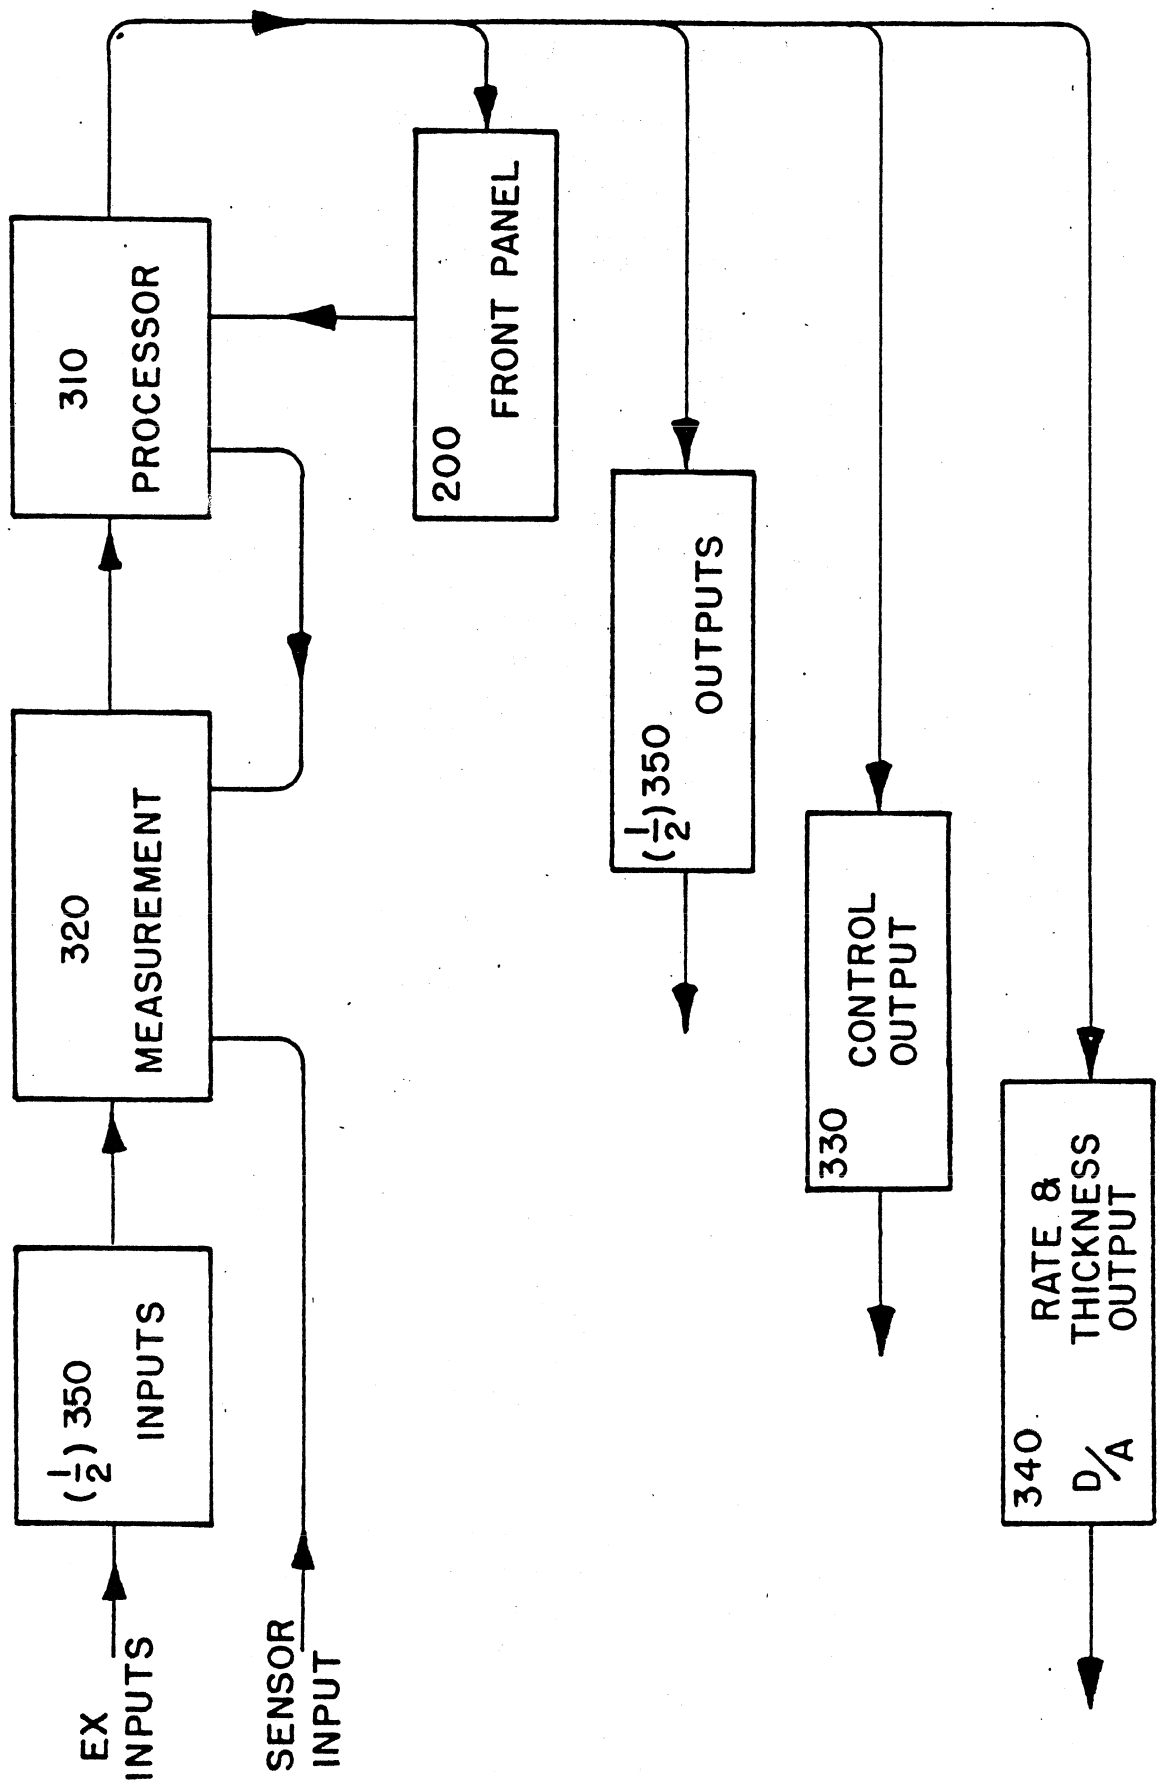
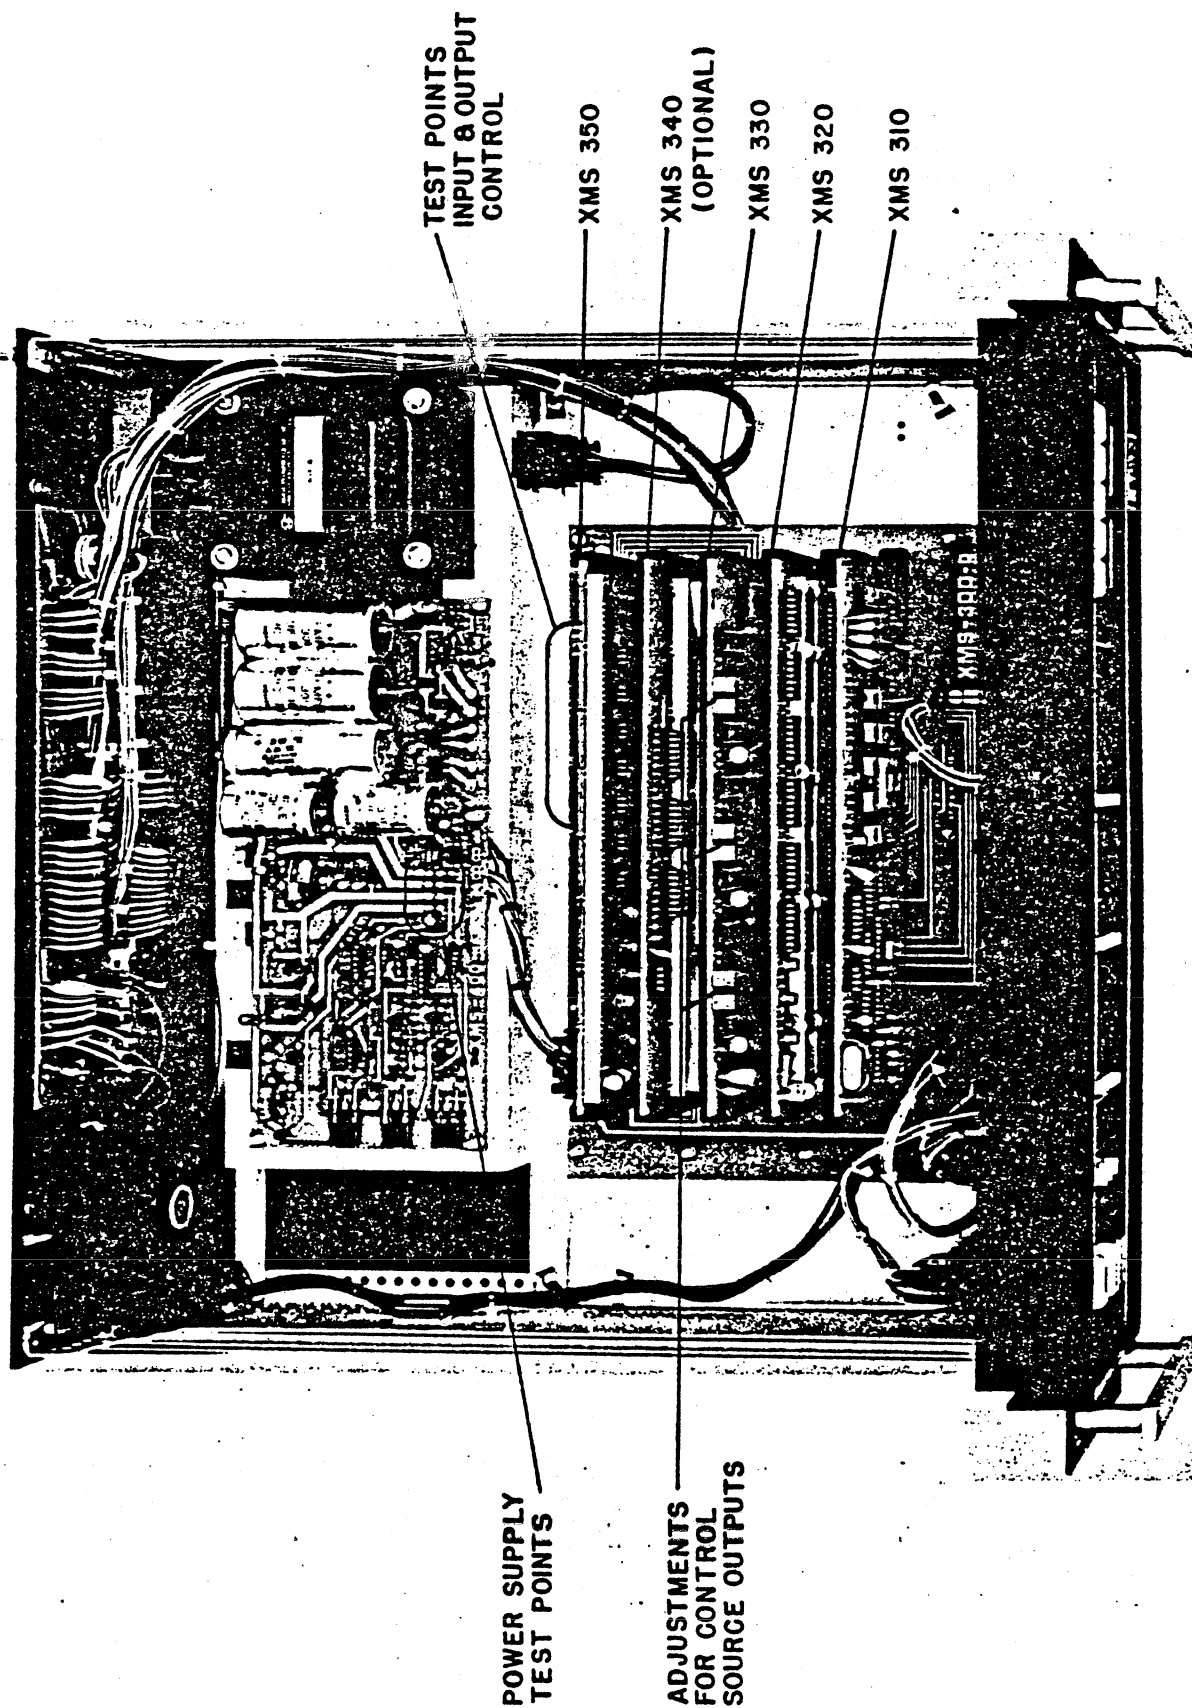
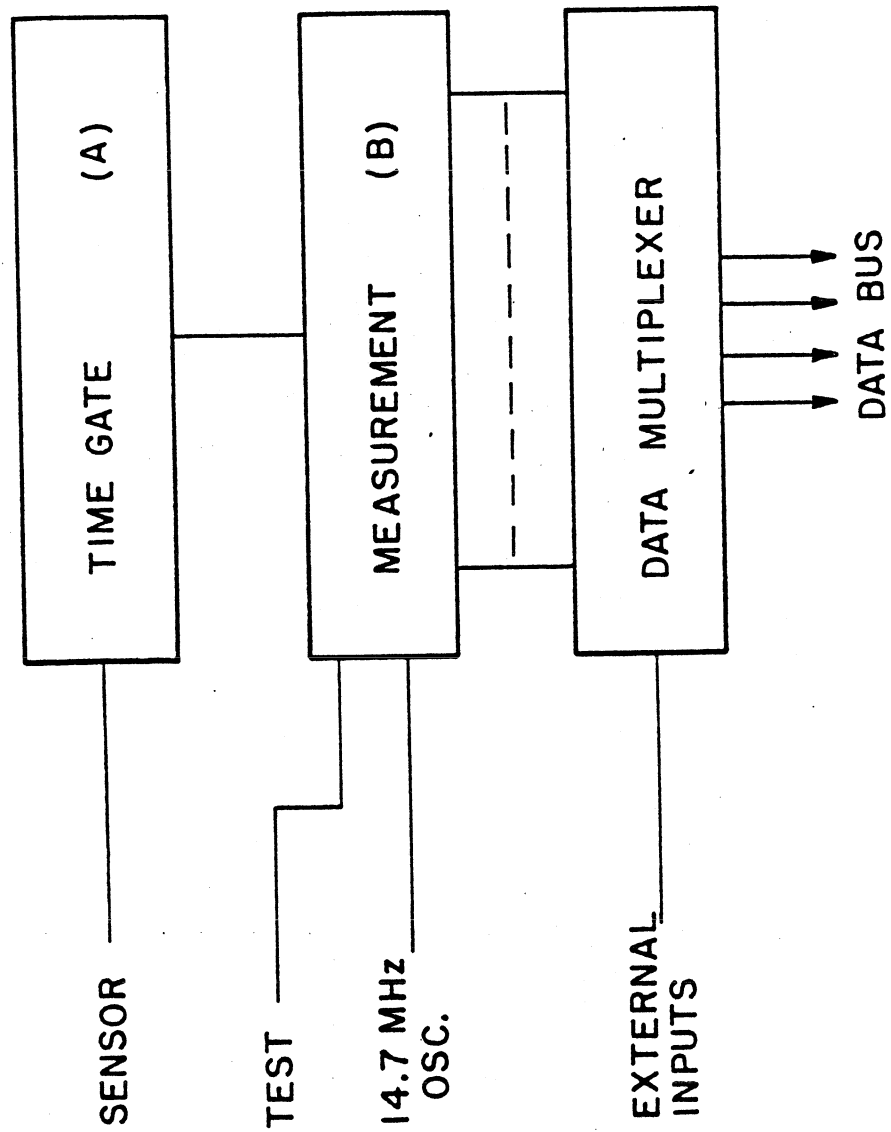

Figure 6-1 XMS-3 Block Diagram
Figure 6-3 Interior View of XMS-3
Figure 6-4 Measurement, XMS-320
The objective of this section is to familiarize service personnel with the various PC boards in the XMS and the role they play in the overall operation of the unit. Each board is broken down into functional blocks, and a brief description is provided. Figures 6-1 and 6-2 show system block diagram and schematic. An interior view of the XMS-3 is shown in Figure 6-3.
6.1.1 Measurement, XMS-320 (Figure 6-4)
The initial thickness measurement is accomplished by determining the variation in the period of the sensor crystal's oscillation. Figure 6-4 is a block diagram of this basic computation.
This subassembly contains all the regulated voltage supplies for the XMS. The following is a list of voltages and the numbers in parentheses are test points located on the XMS-400 board (Figure 6-3). All voltages are in reference to circuit ground unless otherwise noted. Located on the right rear corner of the XMS-300 board is a Turret lug which is labeled Ground. This is a convenient reference point when measuring the following voltages:
In order to accomplish these tests, a stable internal 10 Hz clock is fed into the measurement counter (b) on the XMS-320 board (Figure 6-4). By allowing these pulses to accumulate, an apparent thickness buildup at a rate of 10Å/second will generate.
It can be seen from Figure 6-1 that by entering the 10 Hz clock at the 320 board a means is provided of checking all circuitry involved in thickness and rate computation with the exception of the time gate (Figure 6-4) and sensor input logic.